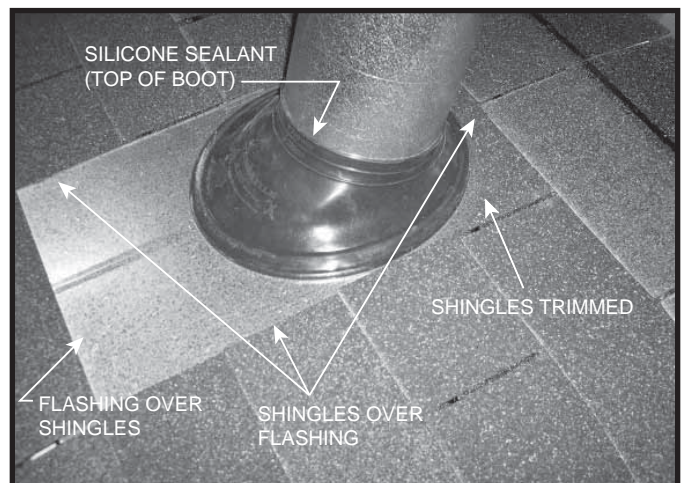

Figure 10.19 Installation Complete
- Trim the rubber boot (using scissors or a utility knife), cutting along the marked measurement lines. See Figure 10.19. Use the 150 mm line.
- Apply silicone sealant on the top outside of the base plate on the sides and on top edge. See Figure 10.19. Install shingles, Apply sealant at the top edge of the rubber boot. See Figure 10.19.